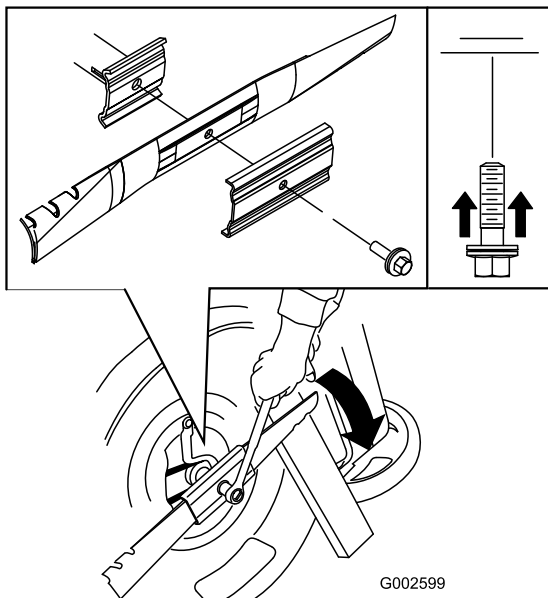

Figure 40
5. Install the new blade (turn the blade bolt clockwise) and all mounting hardware (Figure 40).